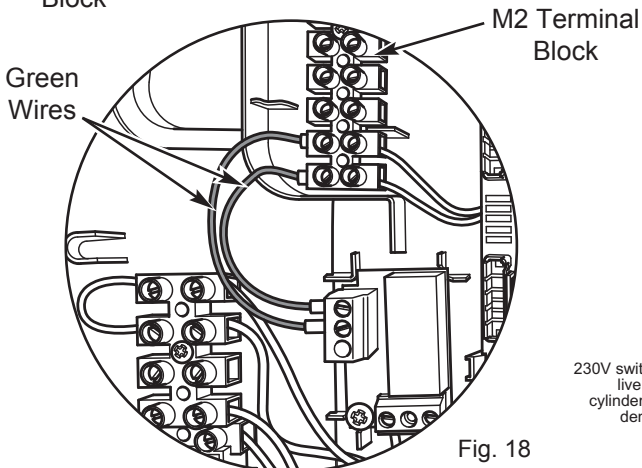

Fig. 18
8. Connect the two green wires from the Relay PCB to the top two terminals of M2 terminal block (terminals 9 & 10, Figs. 18 & 19).